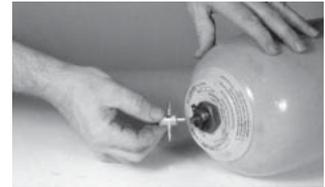

FIGURE 12
- Figure 12.** With port assembly firmly in place, install valve core into the bladder stem. Slowly pressurize the bladder, using dry nitrogen with sufficient pressure (approximately 40-50 psi) to hold hydraulic port assembly in place so both hands are free to continue with assembly.